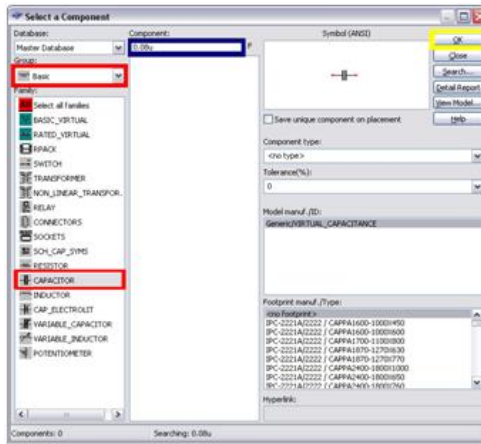

Figure 4. Placing a Resistor
2. In the "Select a Component" dialog box, please set the interface to the following settings circled in red. You have now selected the **Basic** group and the **Capacitor** family (figure 4).